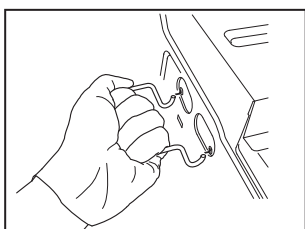

Fig. 1
1. Insert the handle securely into the lateral holes (Fig. 1).